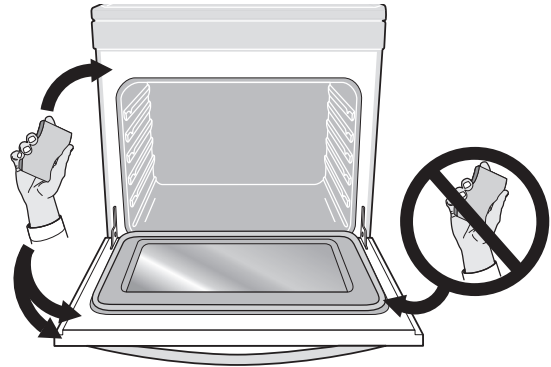

Fig. 57 Do not clean the oven door gasket
12. Wipe oven cavity and bottom. Do not clean oven door gasket (Figure 57).